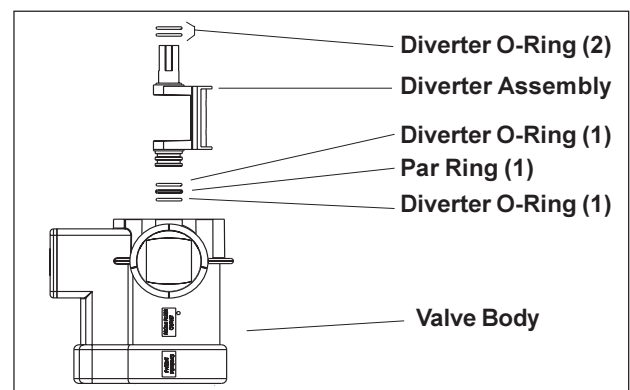

Figure 1. Backwash Valve (Top Half)
5. Referring to the installation order in Figure 1, place two (2) o-rings and one (1) par ring on the bottom of each diverter. Then place two (2) o-rings on the top diverter shaft.